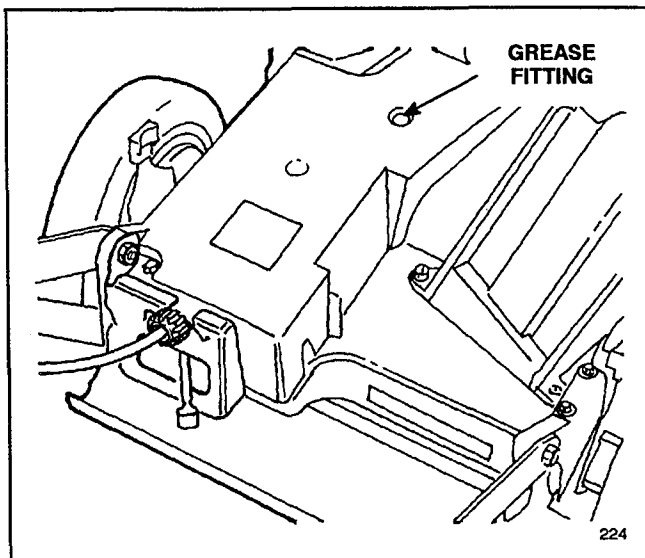

Figure 29
1. Install grease gun onto fitting thru belt cover opening (Fig. 29). Gently apply 1-2 pumps of grease.